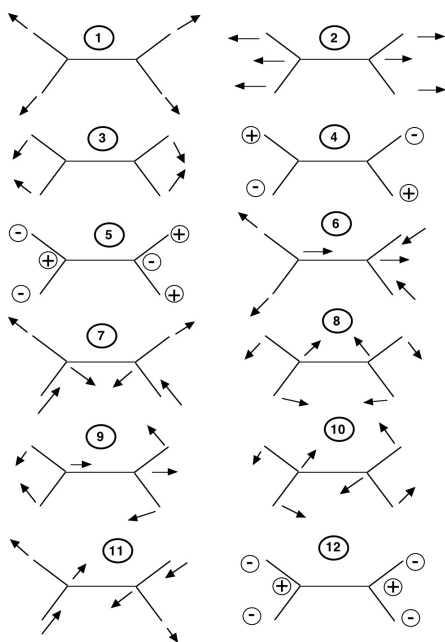

Figure 1: Ethylene vibrations chart. The ID numbers assigned to each vibration are arbitrary, and do not correspond to the modes seen in the results window
4. Look at Figure 1. This chart shows all 12 vibrations. The arrows indicate the motion of various atoms in the molecule. The plus signs signify atoms coming *out* of the plane of the paper, towards you. The minus signs signify atoms going *into* the plane of the paper, away from you. These motions are, of course, relative depending on how you have your molecule oriented.
Use one, or both, of the representations to decide which representation in Figure 1 corresponds to which vibration in your output window.
6. Complete the table. For the column labeled "Number of vibration", you want to enter the number (1 through 12) corresponding to Figure 1.